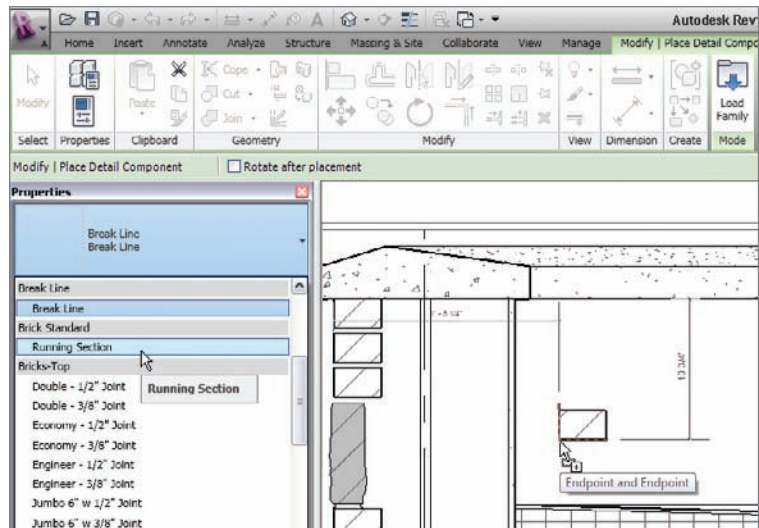

FIGURE 12.34 Place the Brick Standard : Running Section detail component off to the side. You will later delete this occurrence of the component.
3. Place the detail component off to the side of the wall, as shown in Figure 12.34.